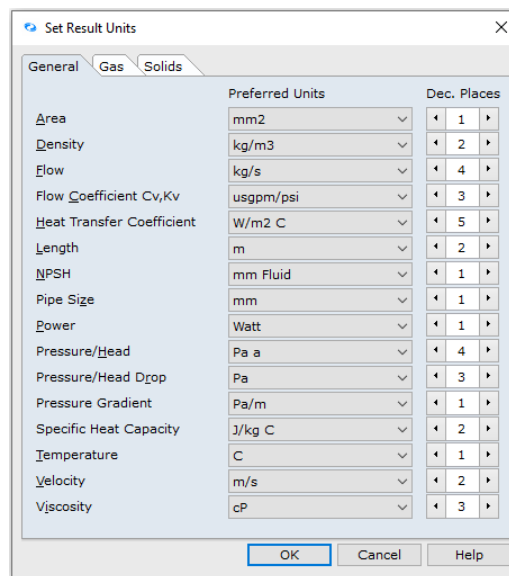

Figure 20: Set Result Units Dialogue Box.
21. Alternatively, you can select F9. This opens a new dialogue box per Figure 20.